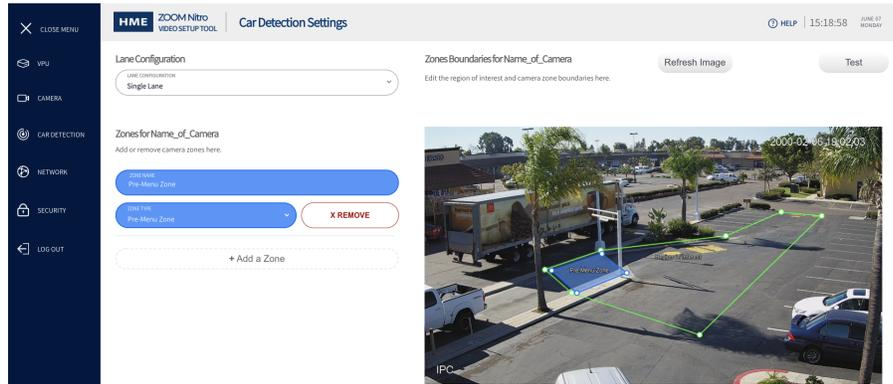

Fig. 6.4
- Click on “+ Add a Zone” and the Pre-Menu Zone appears with a new bounding box (blue) in the image (the box will be yellow if it overlaps the ROI). Adjust the size and shape of this box as you did with the ROI to define this zone and click Save when you are finished. See Fig. 6.4.